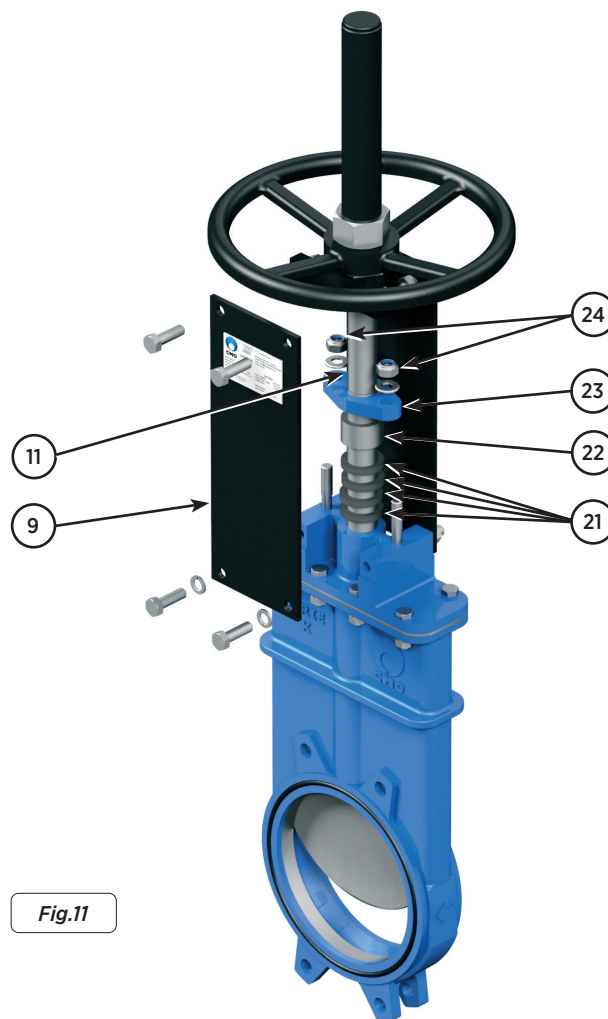

Fig.11
3. Although not essential, for more comfort and more space to work it is advisable to release a support plate (9) as shown in Fig. 11.
4. Loosen the nuts (24) and lift the packing gland flange (23) and the packing gland bushing (22) over the stem.
5. Remove the old gasket (21) using a pointed tool, taking care not to damage the surface of the stem (11).
7. Insert the new gasket (21). During this operation it is very important for both ends of each ring to be perfectly joined. Below we show the gasket dimensions (table 3).
8. Place the packing gland bushing (22) and packing gland flange (23) in their original position, making sure not to touch the stem (11), carefully tighten all the nuts (24) crosswise, ensuring the same distance is left between the packing flange (23) and the stem (11) on both sides, then mount the support plate (9).